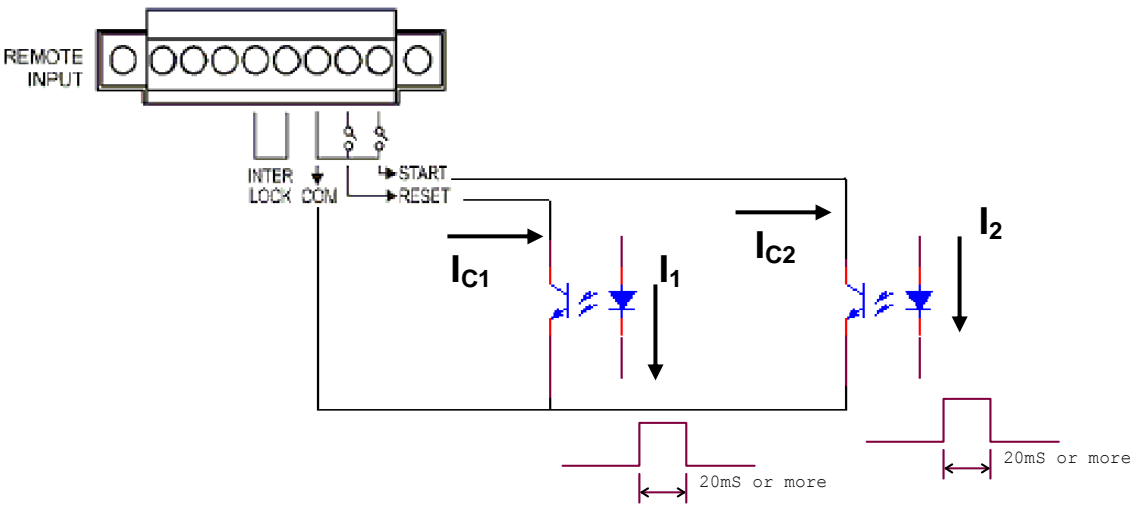

Figure 4-23
3. Some logical components such as transistor, FET, coupler. Also can be used to connect as control circuit as Figure 4-23. The connecting signal and circuit as Figure 4-23. Only the circuit includes the following statuses, it can control the main unit.
4. The relay switch control as *Figure 4-21* and photo-coupler control as *Figure 4-23* are controlled by component contact. It is effective to avoid error operation system which caused by interference. Although the main unit has a lot of preventions, it is necessary to be careful that interferences result from setting measurement system.